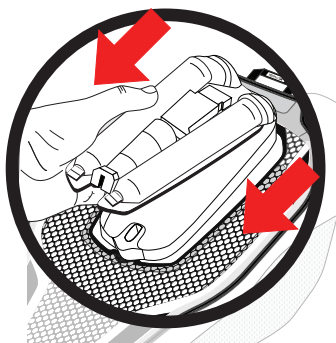

Figure 17: How to remove the airbag and all the electronic components from the rear of the System
removing the Airbag and all the other electronic components integrated inside the Base Layer (1) (see Figure 17). So, as you lift up the Gas Inflaters Housing (13), you will see that you have full access to be able to remove the entire Airbag. You may now start removing the Airbag from the Base Layer (1) by gently pulling on the Airbag until it is completely removed from the Base Layer (1).